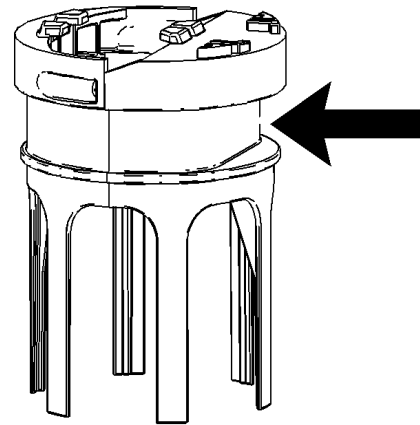

Figure 10-118
9. Tighten the band clamp 4.5 ± 0.7 N·m (40 ± 6 lb in), ensuring that the band clamp is aligned, as shown in Figure 10-118, to the flat spot on the base. Ensure that the filter does not bunch when tightening the band clamp.
11. Tighten bolts (6) in an alternating sequence to 5 ± 1 N·m (44 ± 9 lb in). Tighten bolts (6) a second time in an alternating sequence to 5 ± 1 N·m (44 ± 9 lb in). Apply rubber lubricant to the o-ring seal inside of hose assemblies (1).